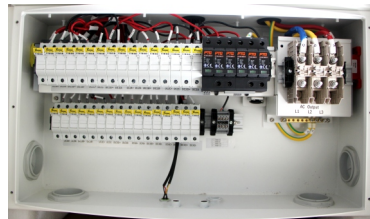

Figure 3.10 Eight (8) input channels
Figure 3.10 Shows eight (8) input channels for connecting DC strings. Each channel is protected by a fuse. The included fuses are rated at 15A. Replace fuses with like size and type. Do not exceed 20A fuse rating.
Terminal 4 (Figure 3.10) has screw terminals for a multiple inverter communication solution using a standard MODBUS cable such as Belden stranded cable.